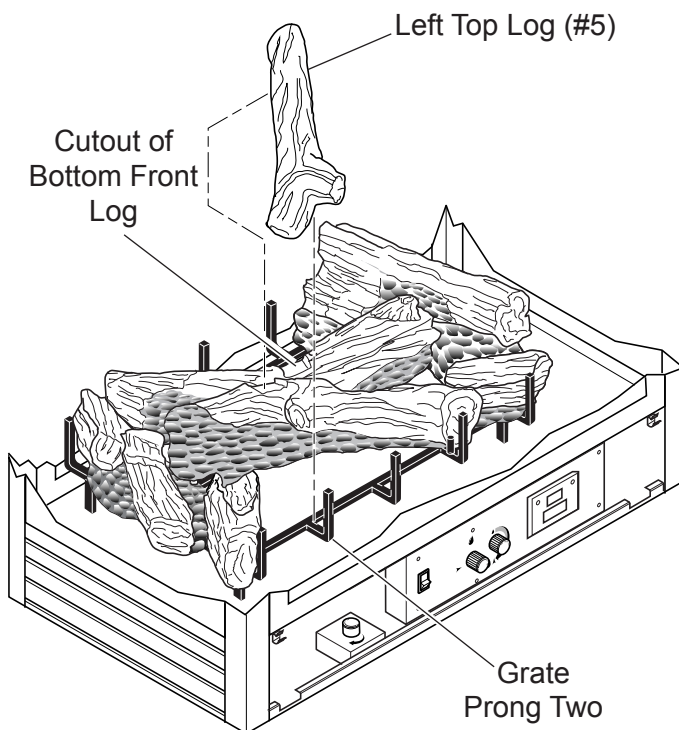

Figure 48 - Installing Left Top Log (#5)
7. Place back end of left top log (#5) on cutout of bottom front log (#4). Position front of left top log (#5) on grate prong two. See Figure 48.